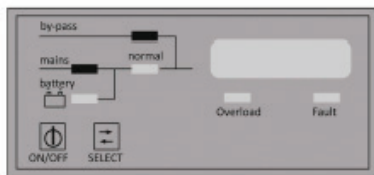
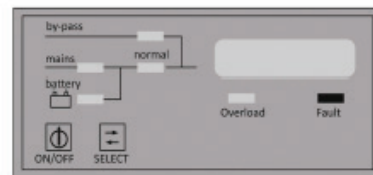

Figure 3.2
Figure 3.3
Step 2: If the mains voltage and the frequency are within the limits, the mains and the by-pass LEDs will be on (Figure 3.2). If they are out of the limits, the Fault LED will be on and a warning beep will be heard (Figure 3.3).